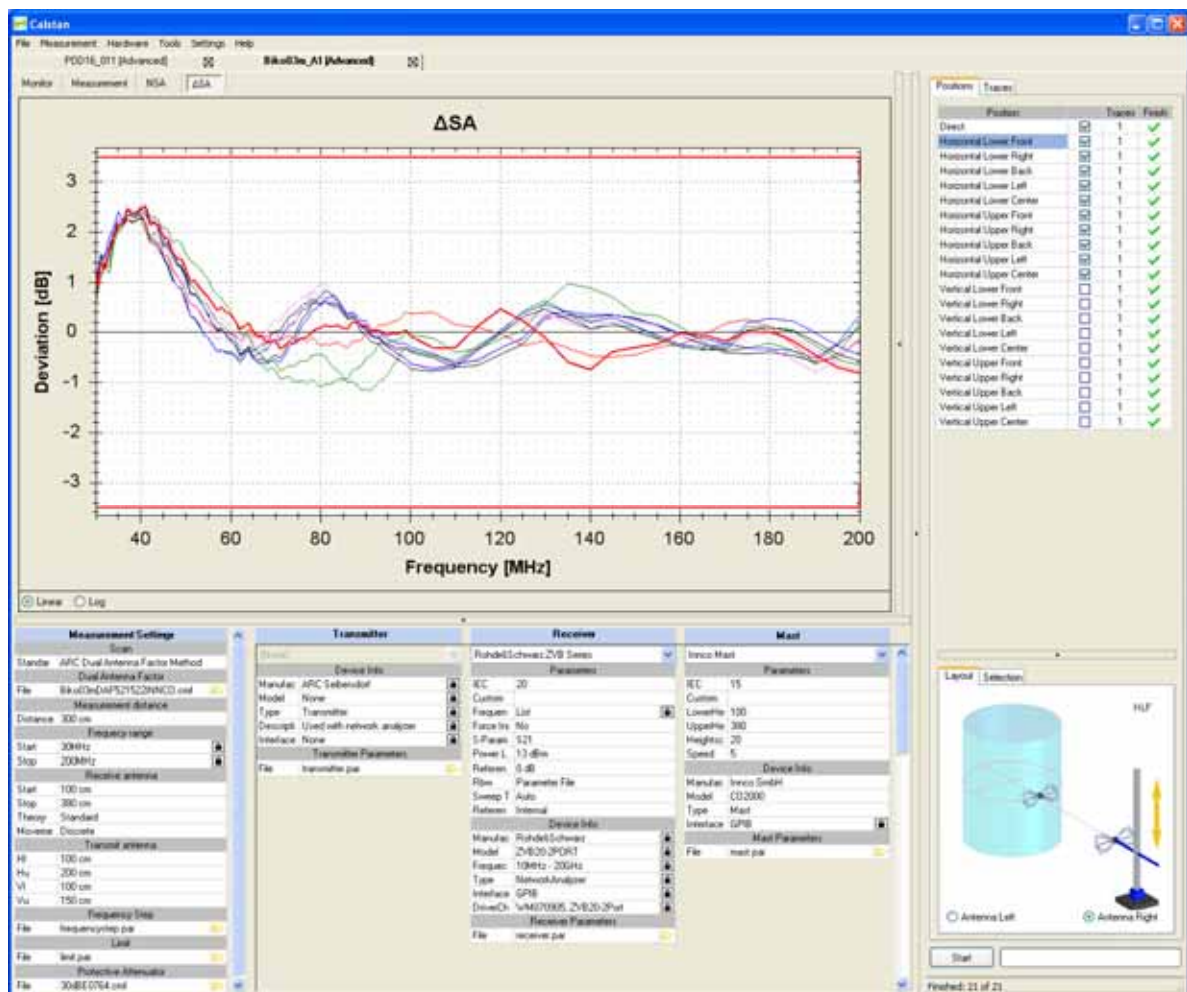

Figure 44: NSA SAC measurement window.
Before starting the measurement all measurement parameters have to be defined in the "Measurement Settings" panel (**Figure 44**, lower left).
1. Measure V_{direct} first. To do so select the "Direct" position in the positions table (**Figure 44**). Connect the generator via the transmit cable and the receive cable to the receiver; two 10 dB attenuators shall be inserted. This configuration ensures that the cable loss of the receive cable is taken into account automatically. If the RefRad is used as generator, the enclosed 30 dB protective attenuator must be used within this measurement.